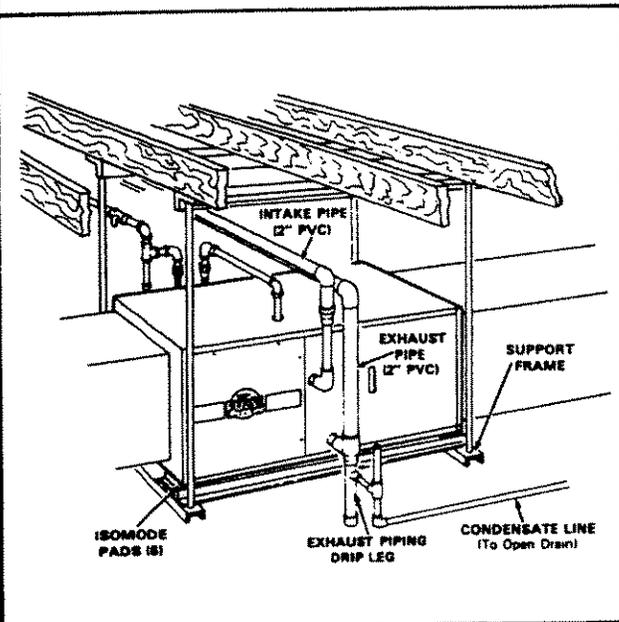

FIGURE 10
- 3 - Install unit on support frame and slide isomode pads between cabinet and frame as shown in figure 10. Unit must be level to ensure proper coil drainage.